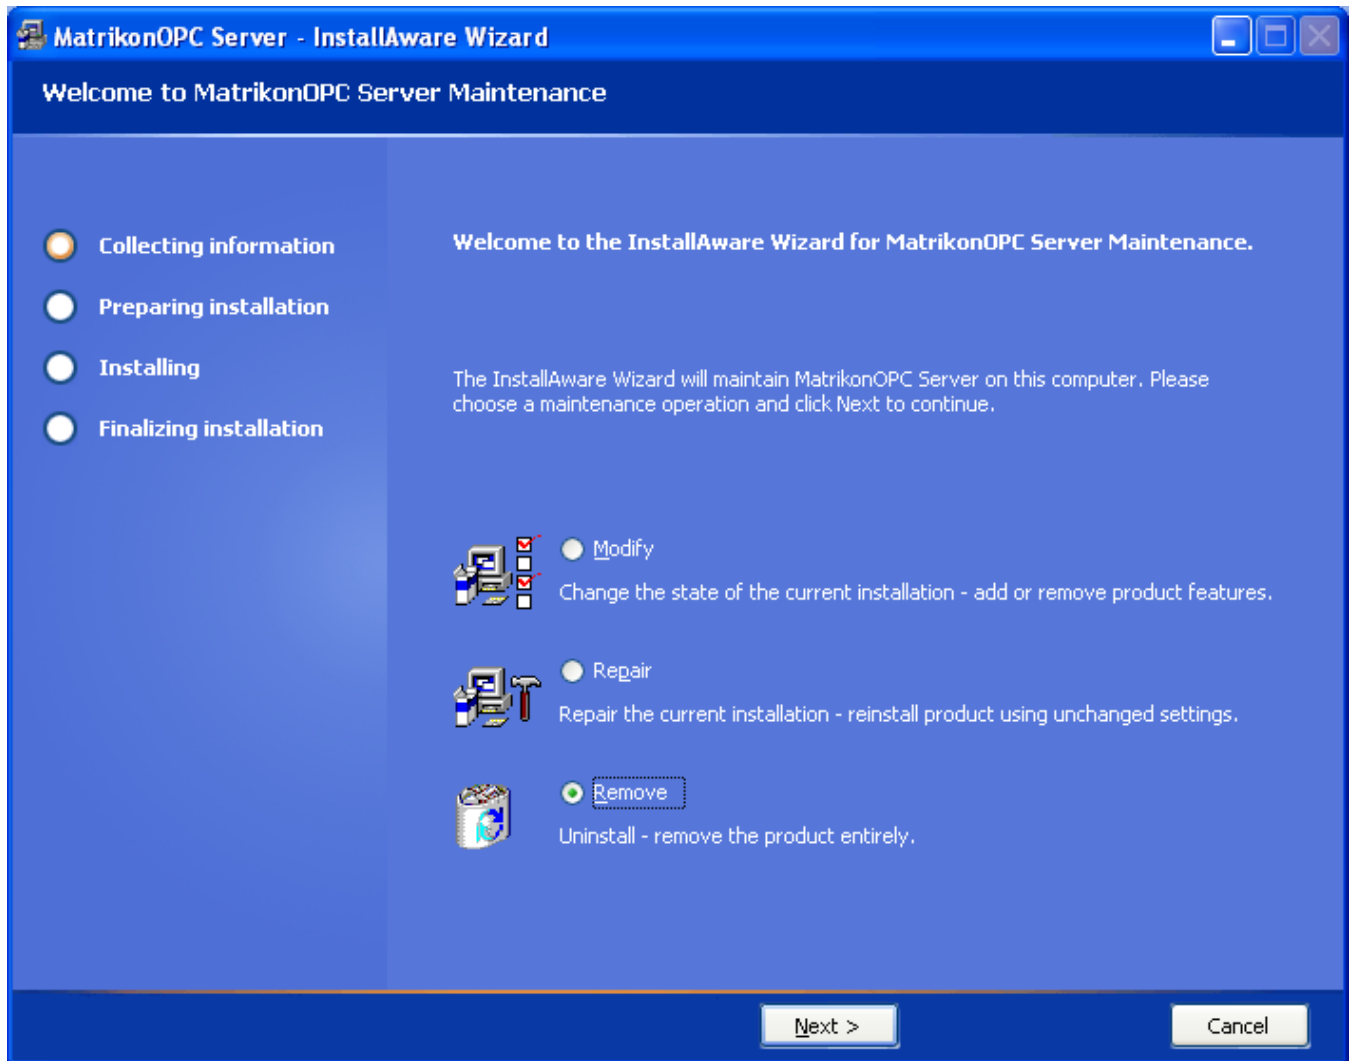

Figure 100 - Welcome to MatrikonOPC Server for Modbus Maintenance Screen
6. The **MatrikonOPC Server for Modbus – InstallAware Wizard** appears, and the **Welcome to MatrikonOPC Server for Modbus Maintenance** screen (Figure 100) is displayed.